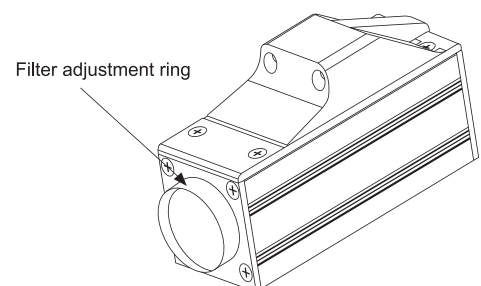

Figure 2: Polarizing Light Filter
- Adjustable polarizing light filter to optimize viewing contrast. Figure 2 shows the polarizing light filter's adjustment ring.